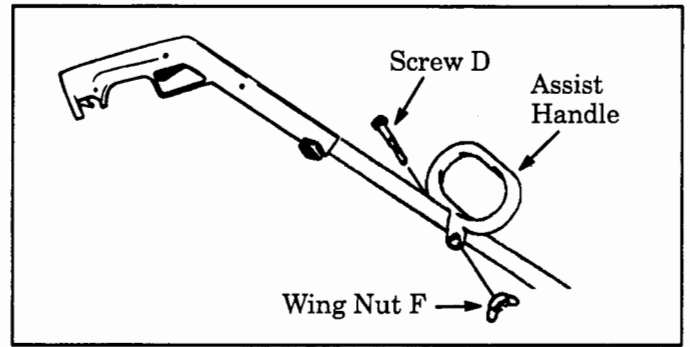

Figure 6
1. Firmly push assist handle onto tube. Figure 6 .
3. Push the hex head screw through the hole in the assist handle. Figure 6 . Thread the wing nut onto the screw and tighten securely.